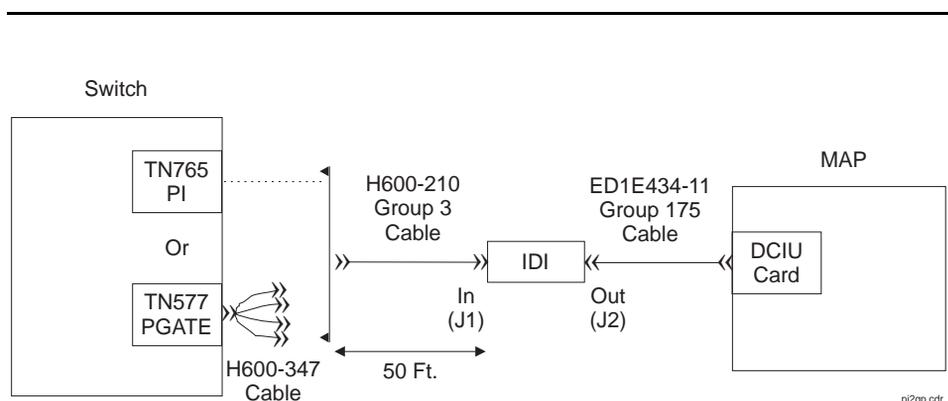

Figure 6. Switch-to-INTUITY Admin Link (X.25)
Figure 6 shows a detailed connection between a Processor Interface (PI) switch port (*si* system) or Packet Gateway (PGATE) switch port (*r* system) and the DCIU card on the MAP.